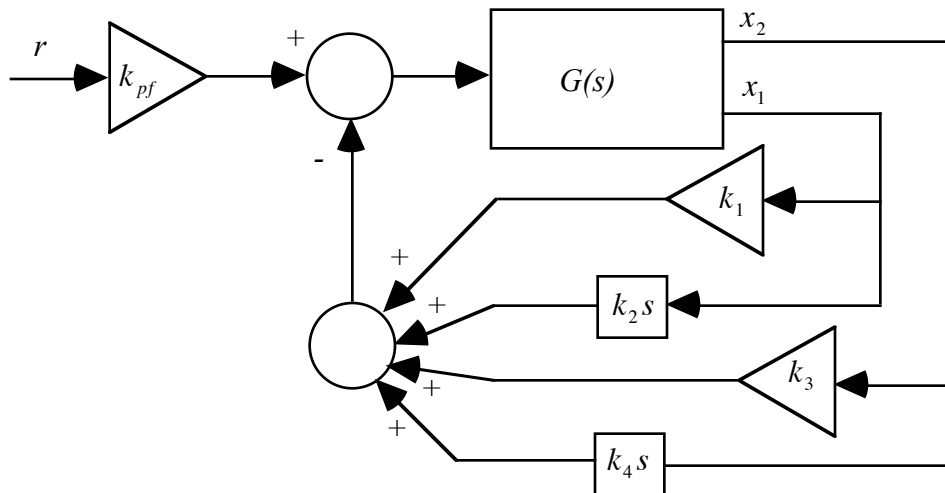

Figure 2: Closed-loop Block Diagram
- d. Select Setup/Control Algorithm... In the dialog box, select the State Feedback radio button, and press 'Setup Algorithm'. The compensator format is shown in Figure 2 above. Carefully enter the coefficient values for your
- g. If you are having problems with stability or excessive noise, check that your units agree as shown in the pre-lab near Figure 2.